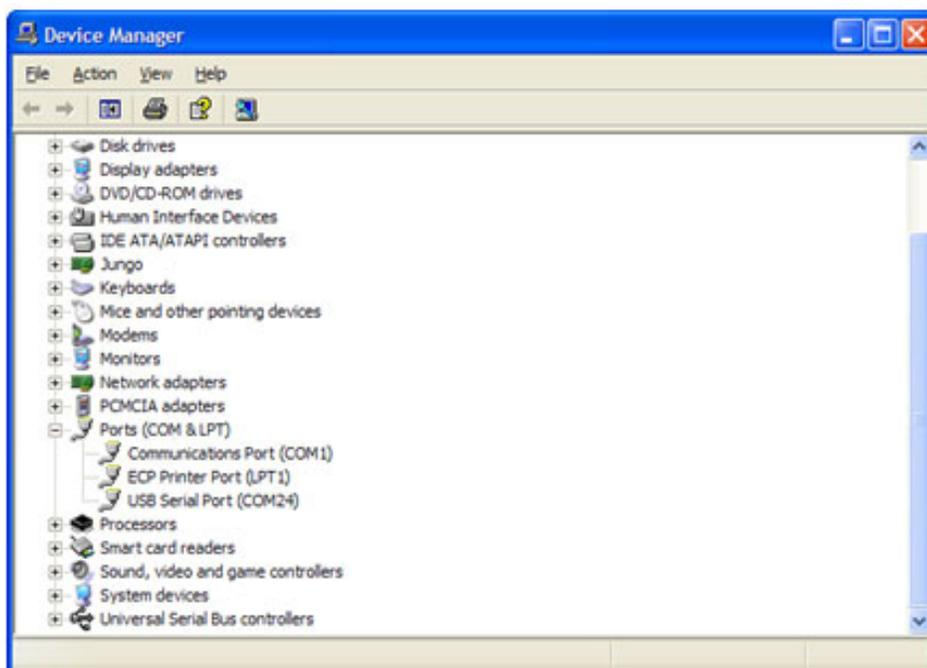

Figure 4-1. COM Port Determination in Device Manager
- b) Select the Hardware tab, and click the Device Manager button. The Device Manager window appears as shown in Figure 4-1.
- d) The COM Port selected by the system is titled `USB Serial Port (COM24)` as shown in Figure 4-1.